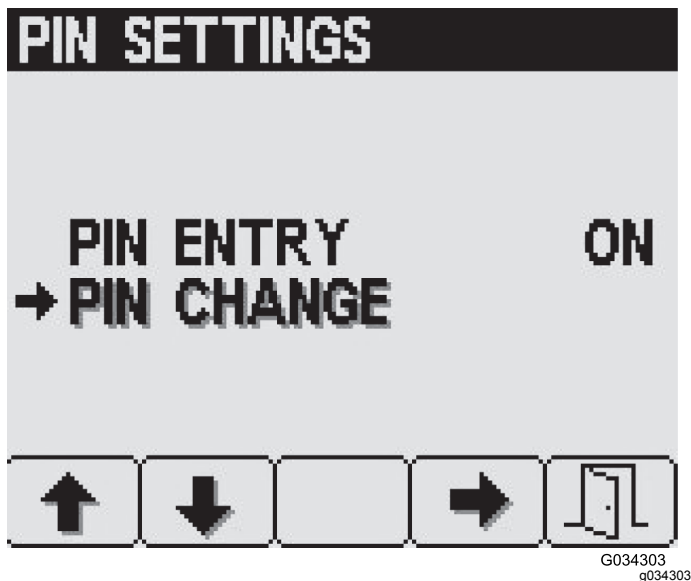

Figure 27
3. From the PIN Settings screen, press button 2 until you reach PIN Change, then press button 4 to select PIN Change (Figure 27).